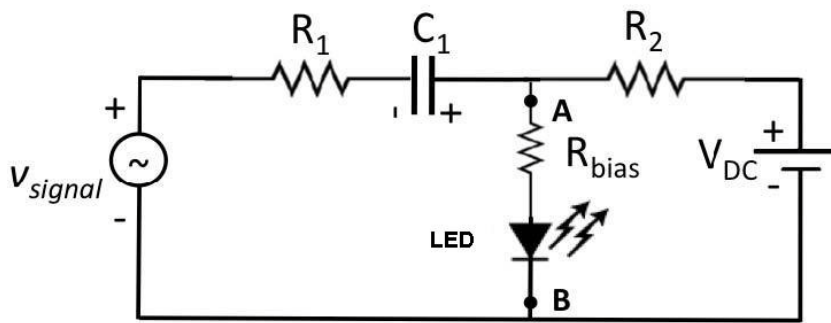

Figure 6:
- 4.c) The problem with the simple circuit discussed above is that you will have a DC bias current going through your AC source. While the pulse generator can handle this DC current, since it is a robust laboratory instrument, your portable music player (e.g. iPod) may not be able to do so. In order to overcome this obstacle, and still be able to bias the LED and apply an additional AC signal (music), we can use circuit shown in Figure 6. We haven't worked very much with capacitors, so to understand how this circuit works let's do the following:
Now build the circuit from Figure 6. If you want you can assume  $R_{bias} = 0\Omega$ .
- iii) The capacitor  $C_1$ , for your circuit will be an electrolytic capacitor. These capacitors ARE NOT symmetric, and their negative electrode (labeled with "-" sign on the package) has to be connected to the lower voltage in the circuit. (Can you think of a reason that non-symmetric capacitors are important in this circuit?) Otherwise, they may blow up (!). In our case, connect the negative electrode to  $V_{signal}$  since  $V_{signal} < V_{DC}$  and the polarity of  $C_1$  is therefore as indicated in Figure 6.